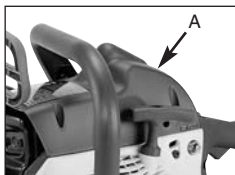

Abb. 18A
1. Remove the top cover (A) by loosening the cover retaining screws. Cover will lift off. (Fig. 18a)